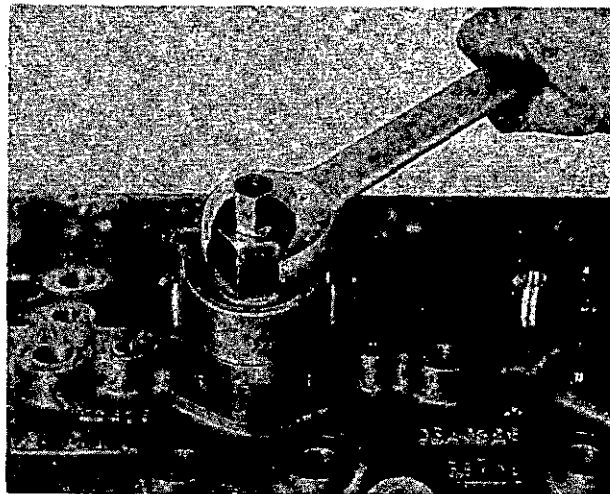

Fig. 12 Extracting the old sleeve
2. Screw the extractor GA.672 into this thread and withdraw the sleeve (fig. 12). Considerable effort is required to shear the rolled-out diameter of the sleeve.